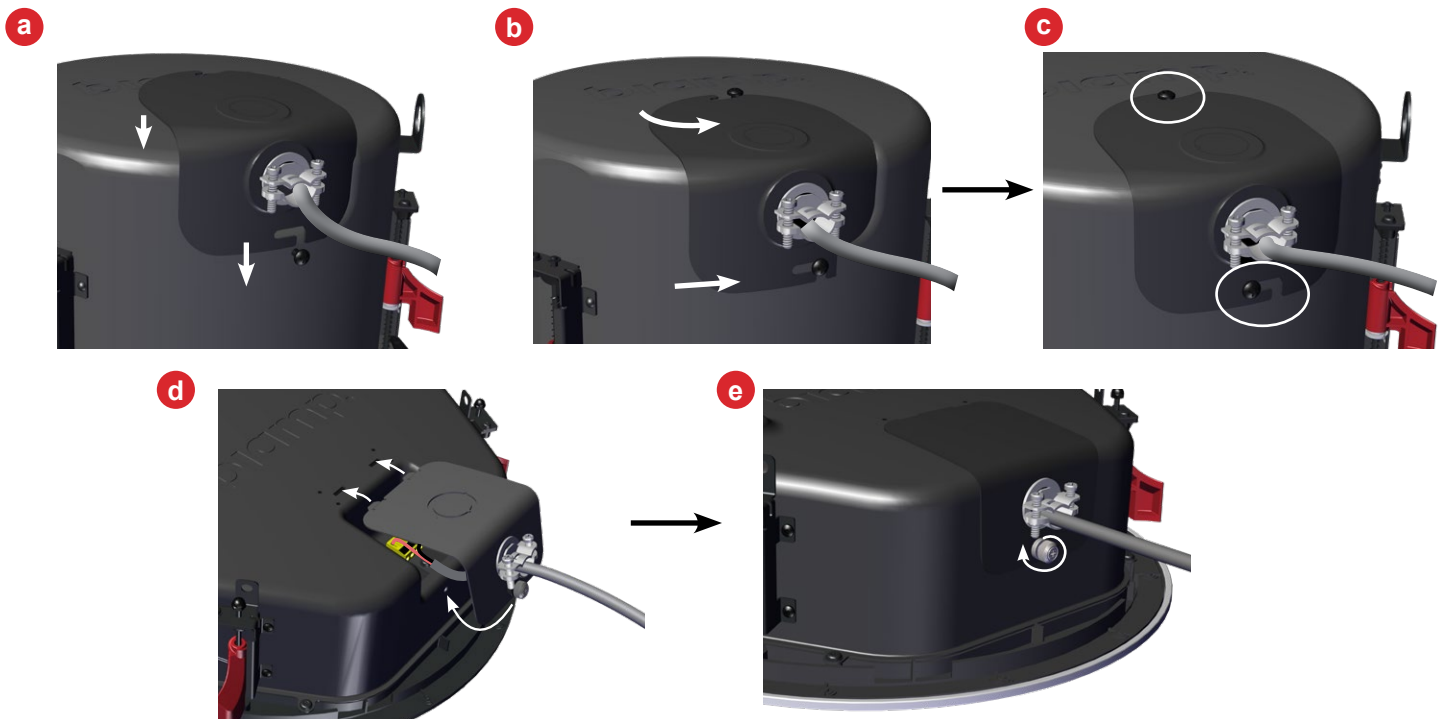

Figure 3. Attach cover
7. Install the cover as shown (Figure 3)